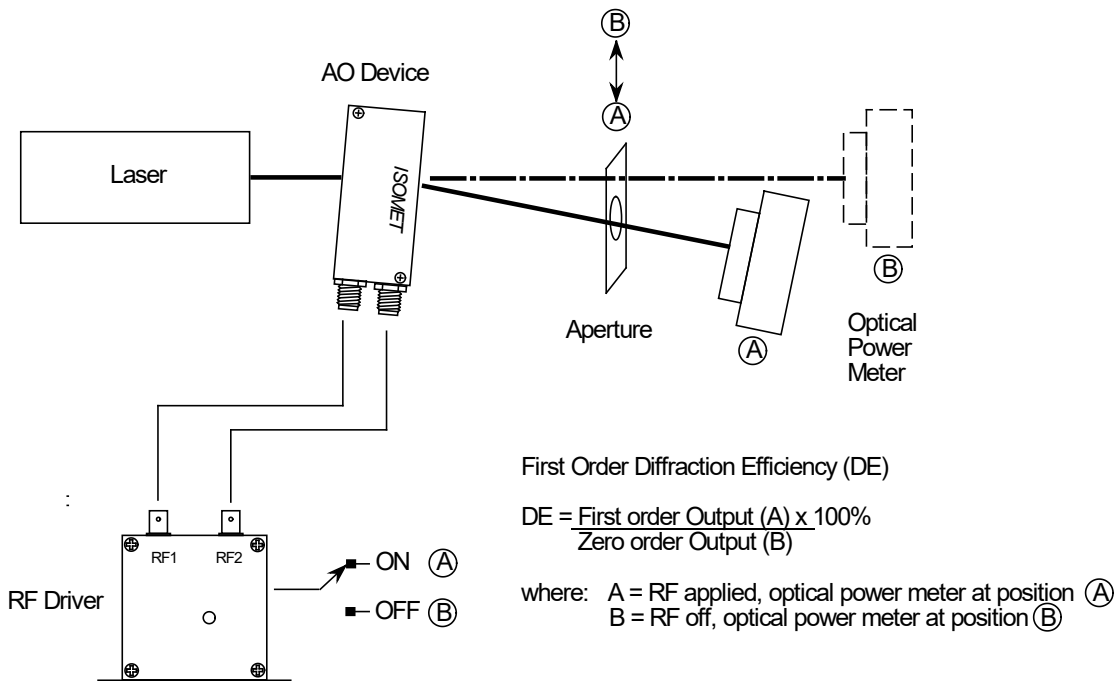

Figure 2: Basic Diffraction Efficiency Measurement
- 1: Place a detector at first order beam position. See Figure 2